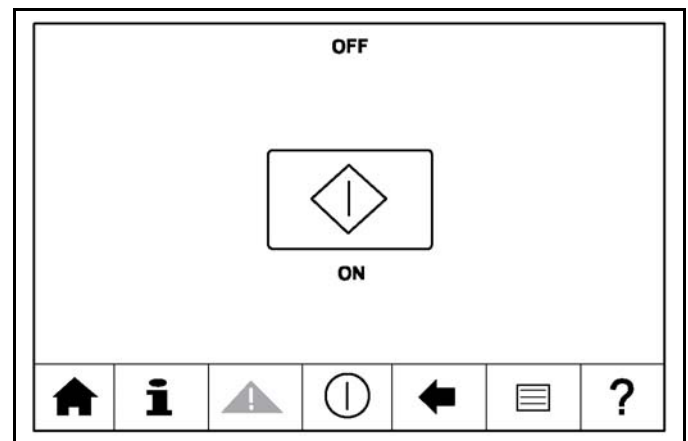

Figure-19
1. Place the fan interlock switch in the ON position. The controller will initialize and then display the following screen (see Figure-19):